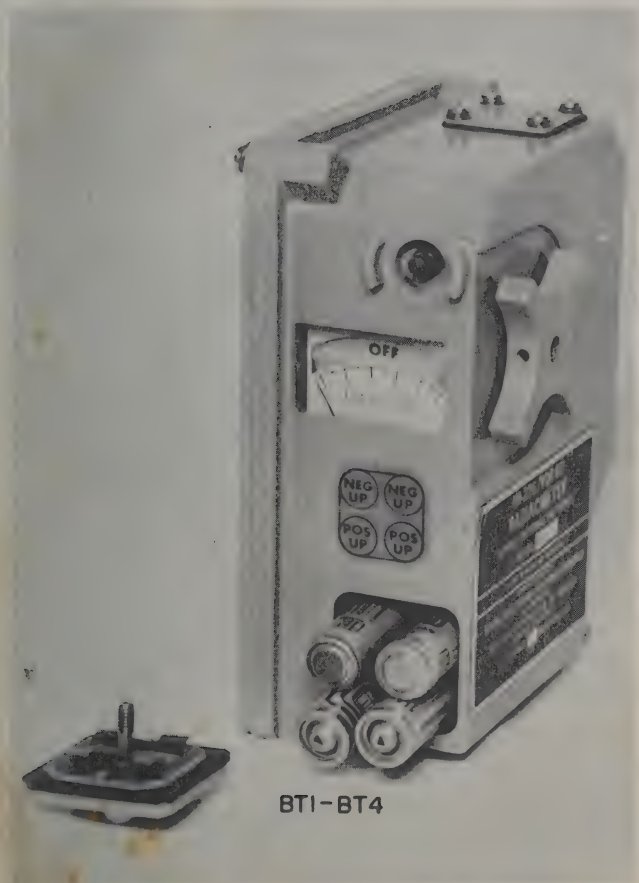

Figure 2-2. Insertion of Batteries in High Range Unit
(2) Connect either the line cord to a 110 V, 60 Hz grounded outlet or the two alligator (battery) clips to a 24 V d.c. source. Red is positive.
(3) Allow 36-hours for a complete charge. The batteries will not be damaged if left on charge indefinitely.
(4) Stored at room temperature, a cell will retain about 70 percent of its charge after 30-days and about 50 percent of its charge after 60-days.
b. Installation for Operation - Remove the battery compartment cover from the High Range unit and install four charged cells. Observe indicated polarity. Refer to Figure 2-2. With one set of batteries installed for operation, recharge the remaining 4 cells. Advance the Selector switch from OFF as follows:
(1) BATT and check for full scale indication.
(2) 0-1000 rad/hr and then through all the remaining eight positions to check for smooth operation and scale drum alignment. Assuming the absence of radiation, the High Range radiacmeter should read zero on the 0-1000, 0-100 and 0-10 rad/hr ranges. With no accessories attached, the Skin Dose and Milirad/hr ranges will also read zero.
(3) Depress the ILLUM switch on any range and check for meter illumination.
(4) Remove the protective cap from P1 and check for the ability to properly connect either the Skin Dose or Low Range accessory. In the absence of radiation, the Skin Dose ranges of 0-5000 and 0-500 rad/hr will also read zero. Likewise, for the Low Range ranges of 0-1000, 0-100 and 0-10 mrad/hr. However, in the 0-1 mrad/hr range occasional or background radiation will cause random upscale indications on the meter.
(5) Connect headset H-43B/U to the Low Range accessory and listen for audible clicks due to background radiation while operating on the low ranges.
the batteries with a known charged set. Observe indicated polarity (see Figure 2-2). Initiate a charging cycle for the dead batteries as outlined in paragraph 2-3a.